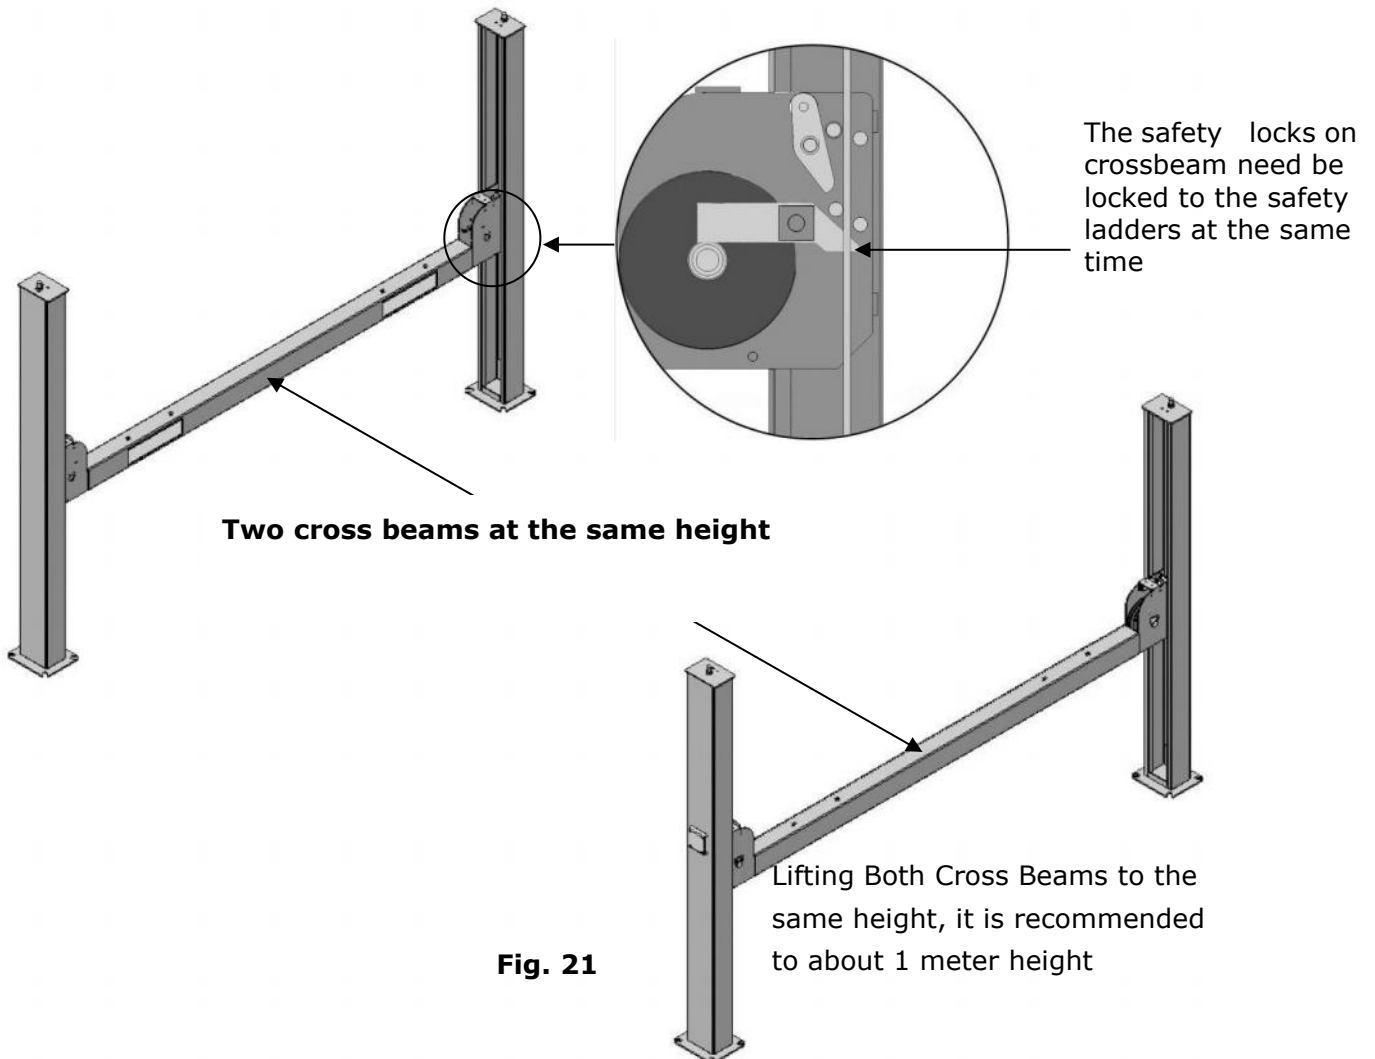

Fig. 21
G. Put the Cross Beams at the same height (See Fig. 21).